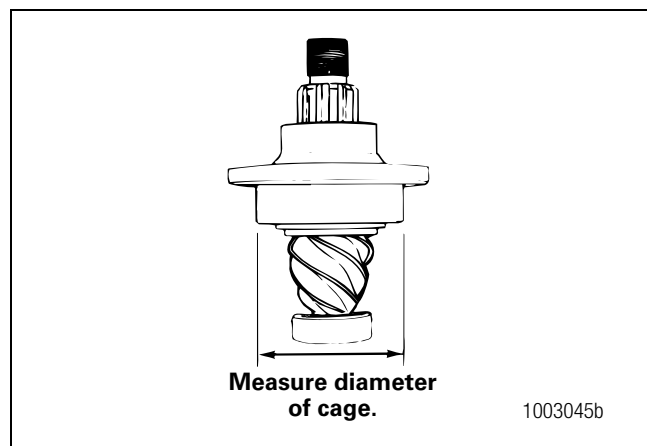

Figure 5.14
- Measure the diameter of the bearing cage where the cord was wound. Measure in inches or centimeters. Figure 5.14.